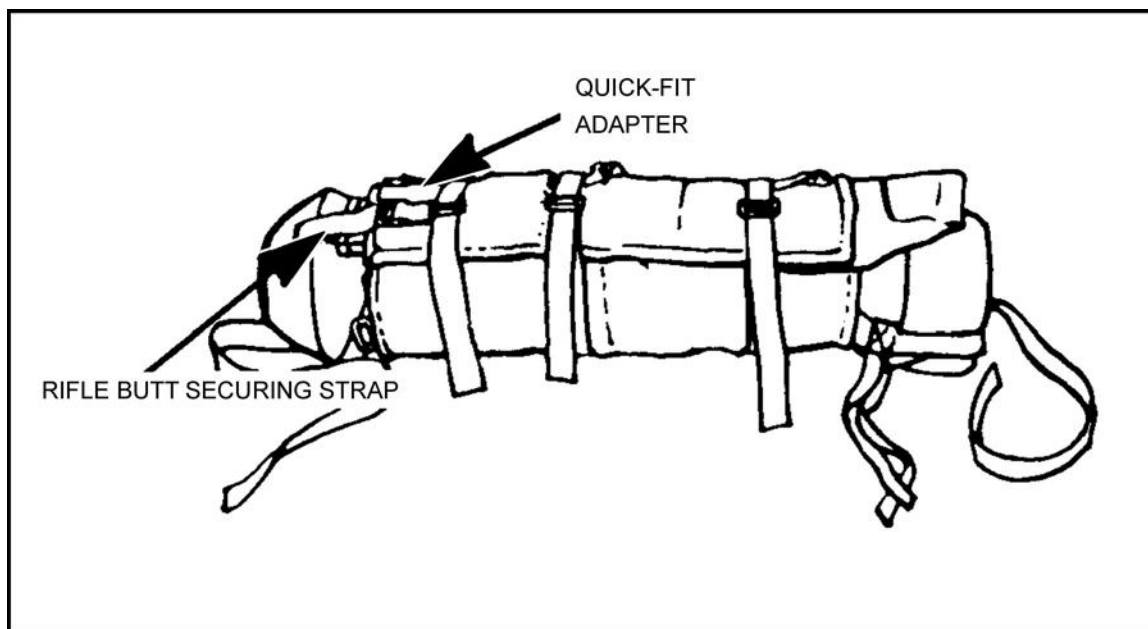

Figure 12-33. Pack closed.
- (1) Fold the outer flap of the jump pack over the weapon (if packed).
- (2) Route the three horizontal securing straps through the quick-fit adapters using a quick-release fold, but do not tighten.
- (3) Route the rifle butt securing strap through the quick-fit adapter. Tighten the strap as much as possible, using a quick-release fold (Figure 12-33).